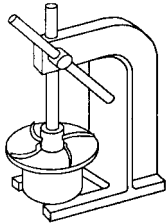

Figure 6
1. To remove the bushing, place the impeller assembly (items 2 and 3) in an arbor press. Insert a 1" diameter plastic or wooden shaft through the impeller and press bushing out. Refer to Figure 6.